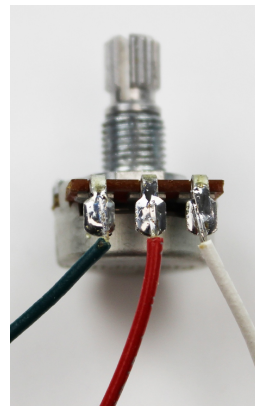

fig 5
- 4) Solder the wires to the lugs exactly as shown in fig 5. Green to left lug, red to the center lug, white to the right lug.